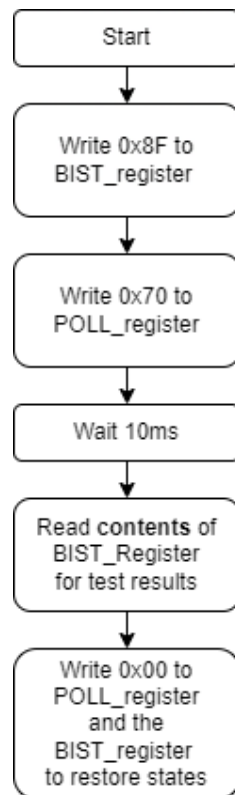

Figure 5-1: - Full BIST sequence using a timer to wait for BIST completion
- An example of the register read and write sequence for a complete BIST operation is given in the flowchart, figure 5-1, below. Note that in this example a 10ms delay is used as an alternative to polling the DRDY pin or DRDY bit in the STATUS register.
Figure 5-1 gives the SPI activity sequence for initiating a single measurement and reading the results. The MagI2C works for either $CPOL=CPHA=0$ or $CPOL=CPHA=1$, so both cases are given. The assumption in the diagram is that the DRDY pin or the MISO line is used to establish when data is ready, but a query of the Status Register could be used instead. SPI timing requirements are discussed in Section 4.4.